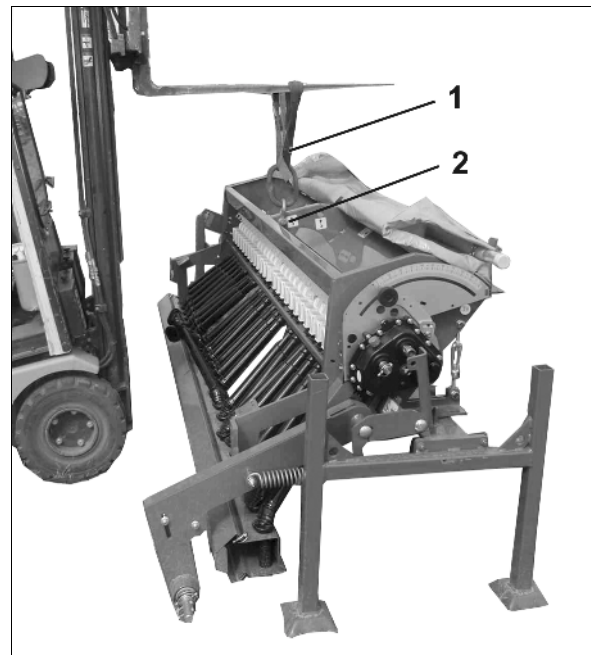

Fig. 17
3. Secure the machine using the lifting belt t (Fig. 17/1) of the lifting device.
Make use of the marked fixing points (Fig. 17/2) on the machine.